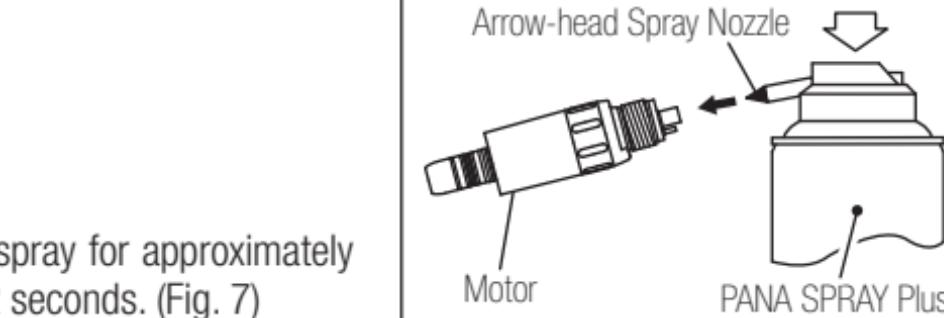

Fig. 6
2) Mount the arrow-head spray nozzle tip into the spray can port. (Fig. 6)